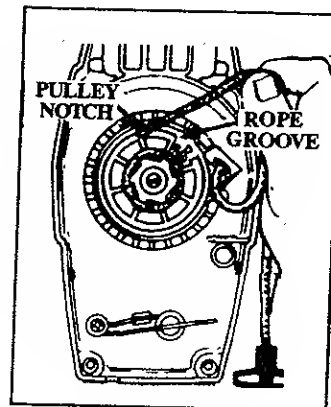

Figure 28
9. If the starter rope is not broken, release the spring tension by pulling about 12 inches of rope from the pulley and catch the rope in the notch as shown. Figure 28.
20. Pull the 12 inch slack in the rope into the inside of the fan housing and catch rope in pulley notch. Figure 28.